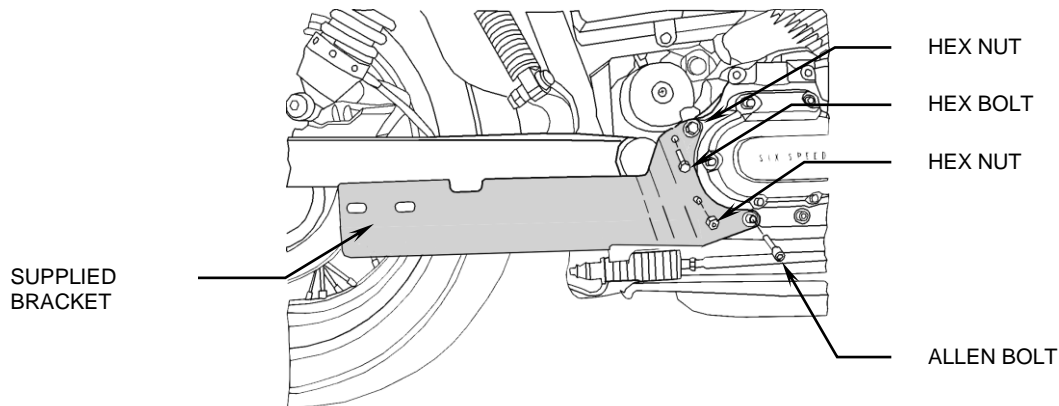

FIGURE 1
4. Remove socket head screw, bolt, and nuts from the transmission case and remove the stock exhaust mount. Install the supplied exhaust mount to motorcycle (see Figure 1) but **do not tighten**. On 2008 Dyna models only, insert the supplied black **spacer** between the supplied exhaust mount bracket and transmission case, then reinstall the stock hex bolt into this location and any remaining hardware, see Figure 2, **do not tighten** fully.